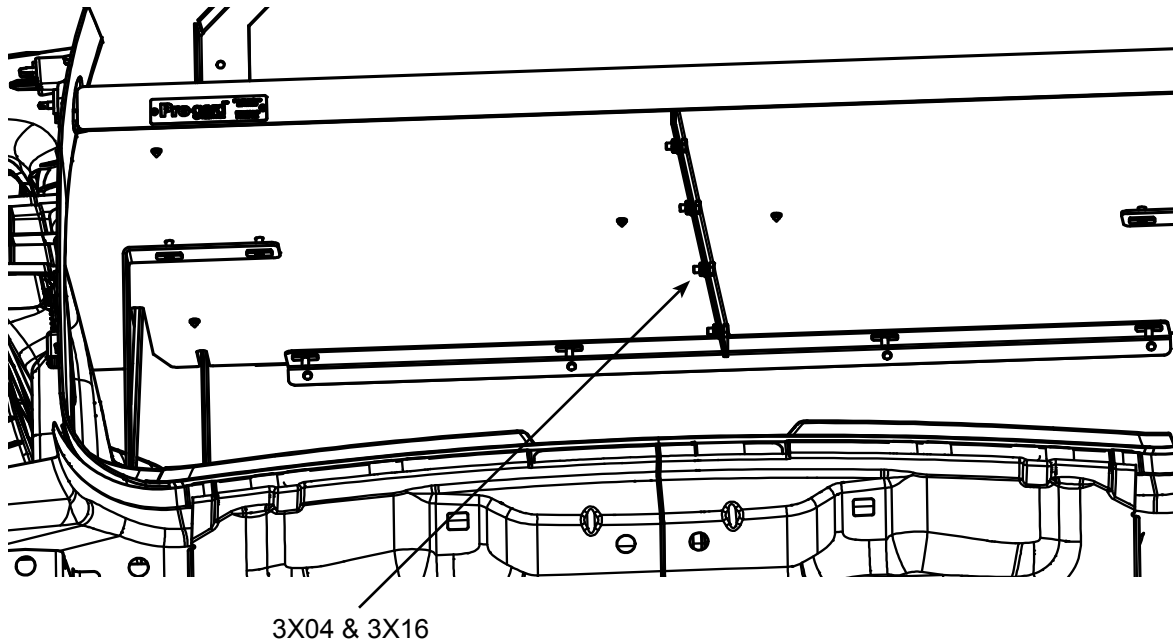

Figure 5
B. On the under side of the shelves there are two tabs that need to be secure together. Line up the holes in the tabs and secure the two shelf halves together using 3X04 bolts and 3X16 nuts. See Figure 5.